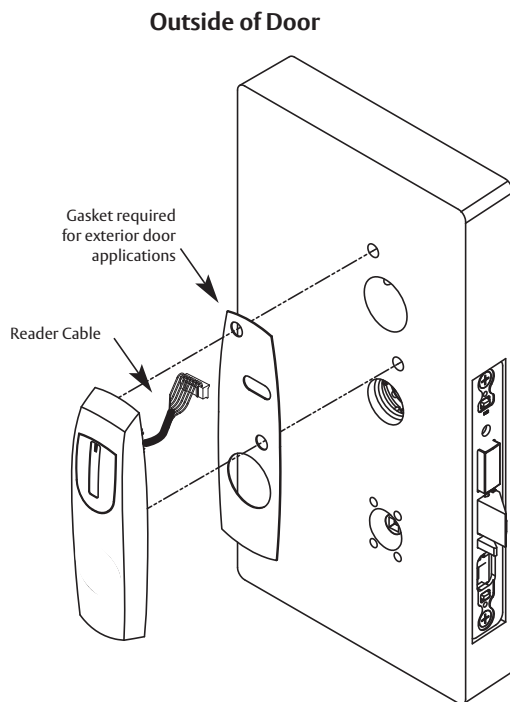

Figure 1
1. Attach the mounting plate using (2) #8-32 x 3/8" Phillips flat head undercut combo screws in the upper left and middle right positions of the mounting plate and (2) #8-32 x 3/8" Phillips flat head screws in the bottom positions.
2. Feed the reader cable located on the back of the outside escutcheon through the door prep. Remember, the outside gasket must be used when installing in an outdoor application (Figure 1).